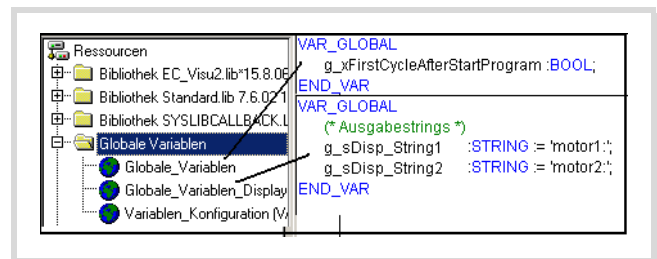

Figure 90: Declaration of display variables
- Declaration of the (display) variables to display entry in the list "Global_Variables_Display" → figure 90
- First declare for each text element that you wish to display, such as "motor1", a type String variable in the list "Global_Variables_Display" as shown in the following example (see also figure 90):
- Set an auxiliary variable "g_xFirstCycleAfterStartProgram" in this program that you reset after the first cycle is completed. The auxiliary variable must be declared globally.→ figure 90